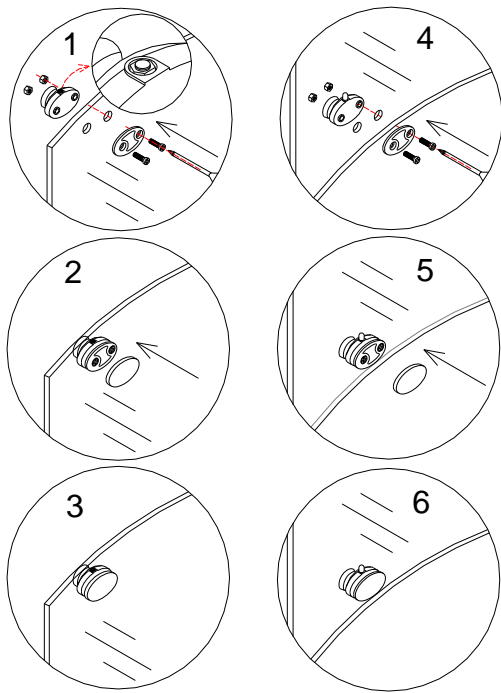

Fig 13
11. Your unit can be shipped to you with the **Wheel assemblies (16)** installed on the doors. If not, please refer to diagram (fig 13) how to install it. Attach the top and bottom wheels to the glass door. The wheel that goes on the top has an adjustable screw and nut to adjust the door level. Note that the lock nut of upper wheel should face up. The bottom wheel has a press button to fix the wheel on the bottom guide rail; that button should face up. See Fig 13 for details.